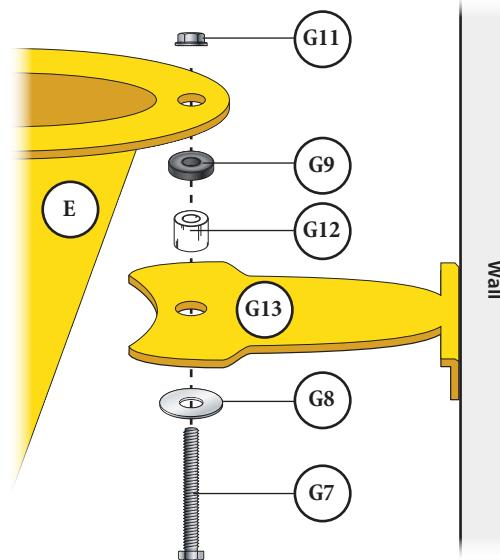

FIG. 12
13 Secure the Rear Support Brace (G13) to the Cyclone (E) using a 2-1/2" Hex Head Bolt (G7), Flat Washer (G8), Nylon Spacer (G12), Rubber Washer (G9), and Whiz-Lock Nut (G11) as shown in [FIG 12].